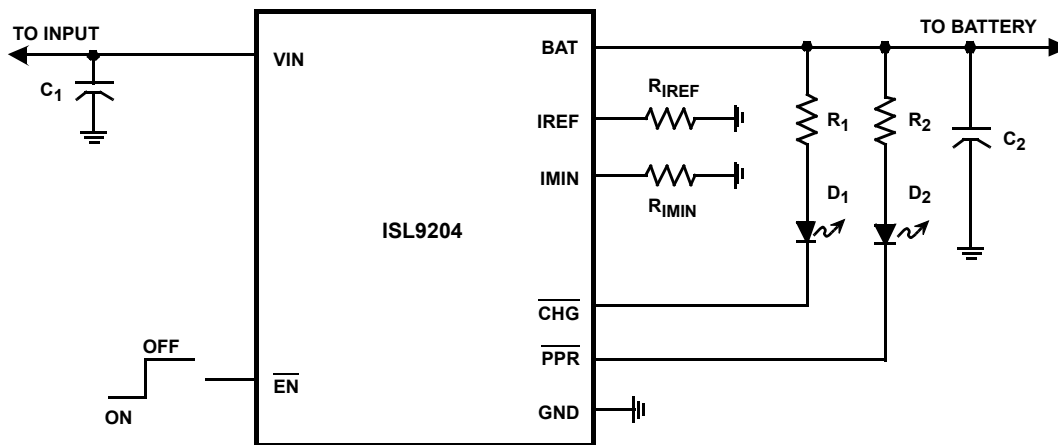
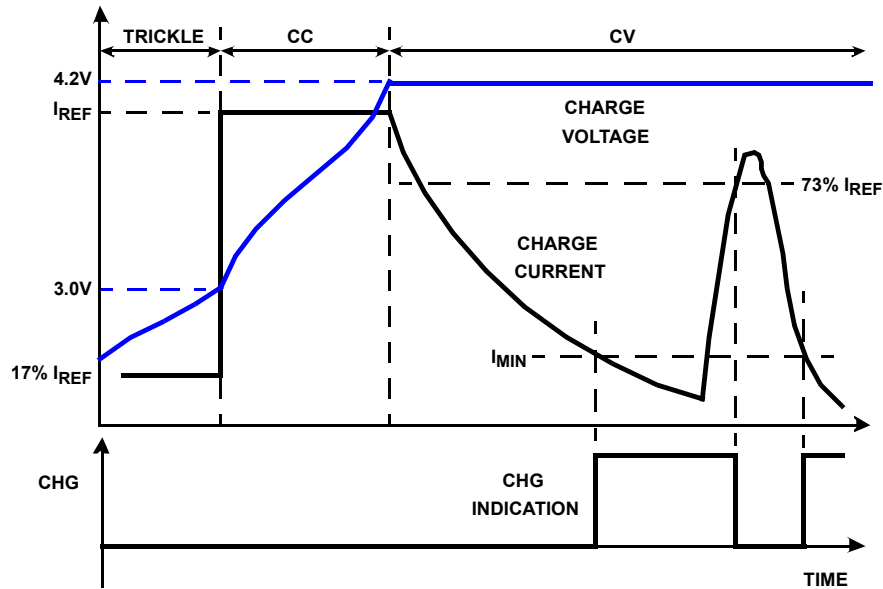

FIGURE 9. TYPICAL APPLICATION CIRCUIT INTERFACING TO INDICATION LEDs
FIGURE 12. TYPICAL CHARGE PROFILE
TABLE 1. COMPONENT DESCRIPTION FOR FIGURE 9
The ISL9204 charges a Li-ion battery with a constant current (CC) or a constant voltage (CV). The constant current  $I_{REF}$  is set with the external resistor  $R_{IREF}$  (see Figure 9) and the constant voltage is fixed at 4.2V. If the battery voltage is below a typical 2.8V trickle-charge threshold, the ISL9204 charges the battery with a trickle current until the battery voltage rises above the trickle charge threshold. When the battery voltage reaches 4.2V, the charger enters a CV mode and regulates the battery voltage at 4.2V to fully charge the battery without the risk of over charge. Upon reaching an end-of-charge (EOC) current, the charger indicates the charge completion with the CHG pin, but the charger continues to output the 4.2V voltage. Figure 12 shows the typical charge profile and the EOC/reset event.
The EOC current level  $I_{MIN}$  is programmable with the external resistor  $R_{IMIN}$  (see Figure 9). The CHG signal turns to LOW when the trickle charge starts and rises to HIGH at the EOC. After the EOC is reached, the charge current has to rise to typically 73%  $I_{REF}$  for the CHG signal to turn on again, as shown in Figure 12. The current surge after EOC can be caused by a load connected to the battery.
The PPR pin can be used to drive an LED (see Figure 9) or to interface with a microprocessor.